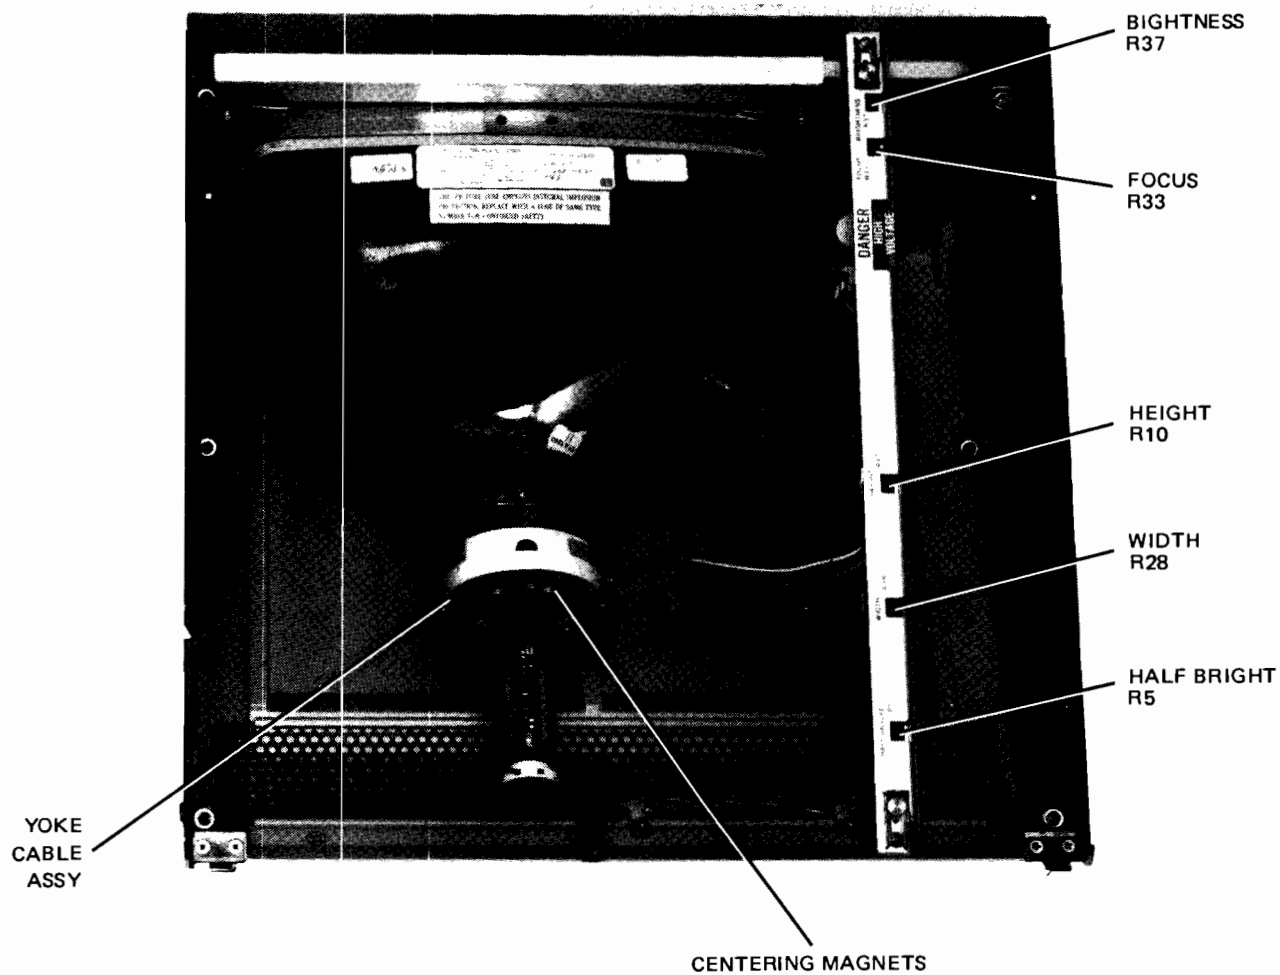

Figure 3-4. Mainframe Top Adjustment Locations
Due to product design, these adjustments seldom need be performed. However, minor adjustment can be made to each potentiometer (see figure 3-4) to suit individual preferences by opening the terminal mainframe to its half open position, removing the CRT shield (65, figure 4-1), energizing the terminal, and adjusting the applicable potentiometer for the desired display appearance. If extensive repair or replacement procedures have been performed on the terminal, it is suggested that the adjustment procedure below be performed in its entirety to ensure optimum terminal performance.
- j. Adjust BRIGHTNESS R37 (see figure 3-4) for desired display brightness.
- n. Adjust FOCUS R33 (see figure 3-4) for best overall display sharpness.
- j. The monitor should display an inverse video rectangular pattern. If no pattern is displayed, adjust BRIGHTNESS R37 (see figure 3-4) until pattern is displayed. If this step is required, perform brightness and focus adjustments in accordance with paragraph 3-10 after completing raster alignment and adjustment procedures.
- k. Rotate Yoke Cable Assembly (see figure 3-4) until displayed rectangle is horizontal and parallel to monitor frame.